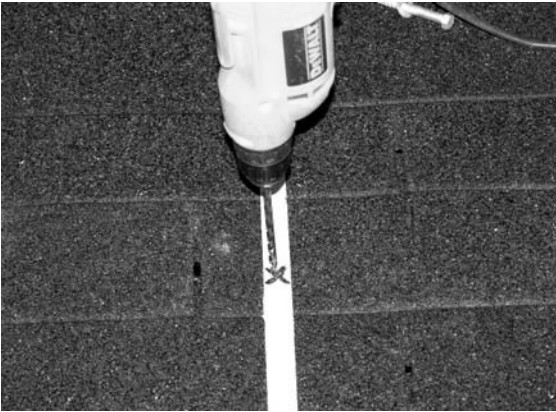

Fig. 5.3.3 – Pre-drill lag-bolt hole.
1. Once appropriate lag-bolt position has been determined, drill about 5" (12.7 cm) into rafter with a long (min. 6" (15.24 cm)) 1/4"-drill bit (Fig. 5.3.3). Fill hole with polyurethane roofing sealant.